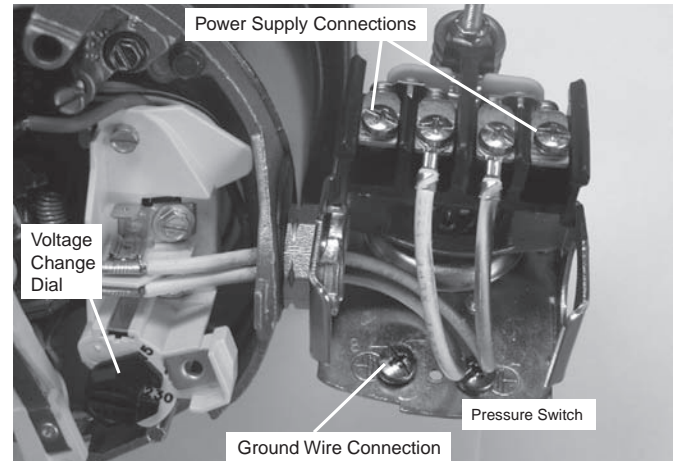

Figure 8: Voltage set to 230 V, Dial Type
3. Attach the incoming power leads to the two outer screws on the pressure switch as shown in Figure 8.
4. Attach the ground wire to the grounding connections as shown in Figure 8.